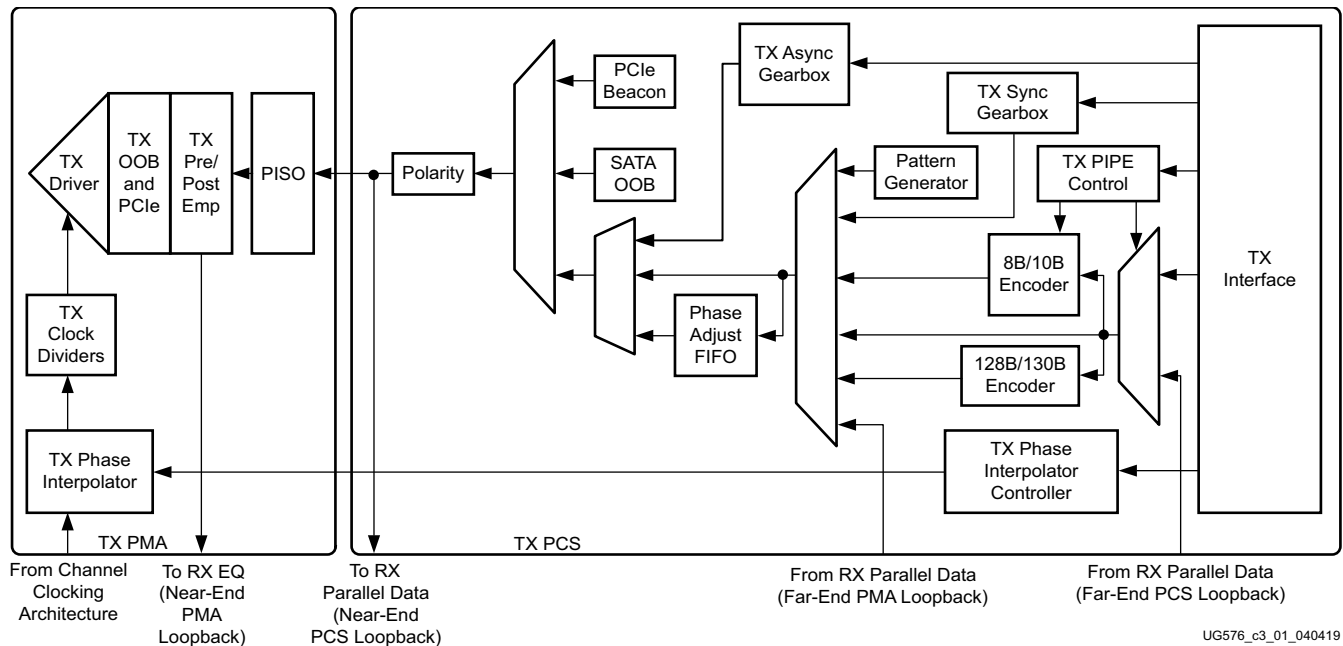

Figure 3-1: GTH Transceiver TX Block Diagram
This chapter shows how to configure and use each of the functional blocks inside the transmitter (TX). Each transceiver includes an independent transmitter, which consists of a PCS and a PMA. Figure 3-1 shows the functional blocks of the transmitter. Parallel data flows from the device logic into the TX interface, through the PCS and PMA, and then out the TX driver as high-speed serial data.